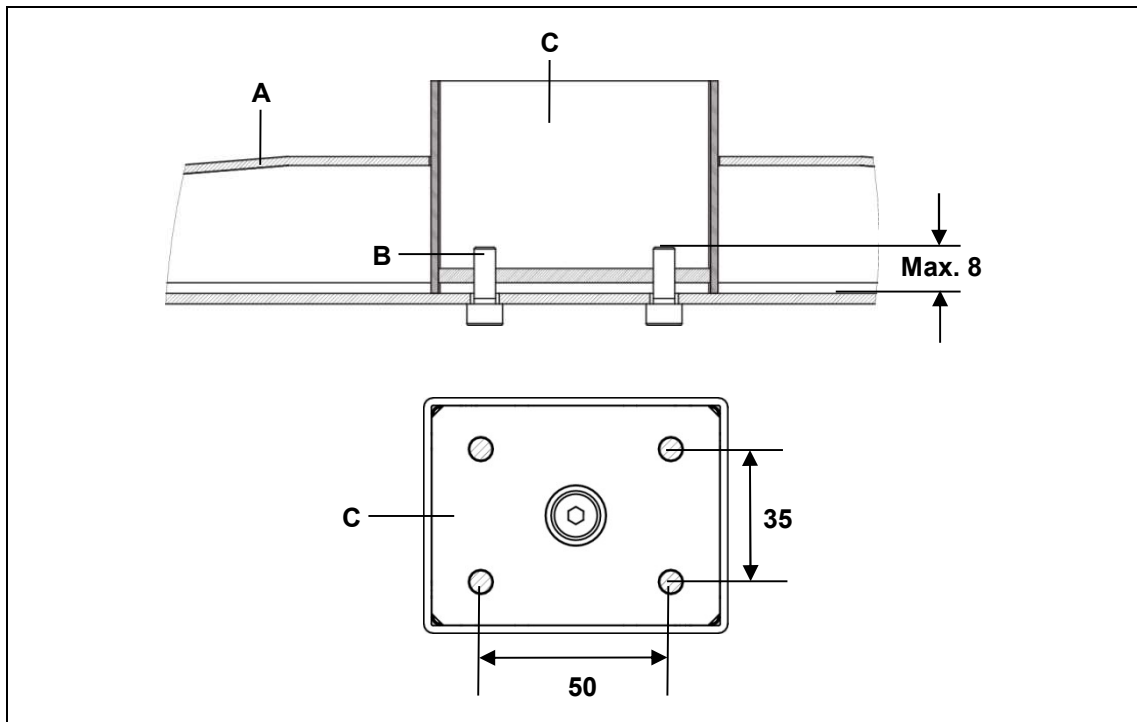
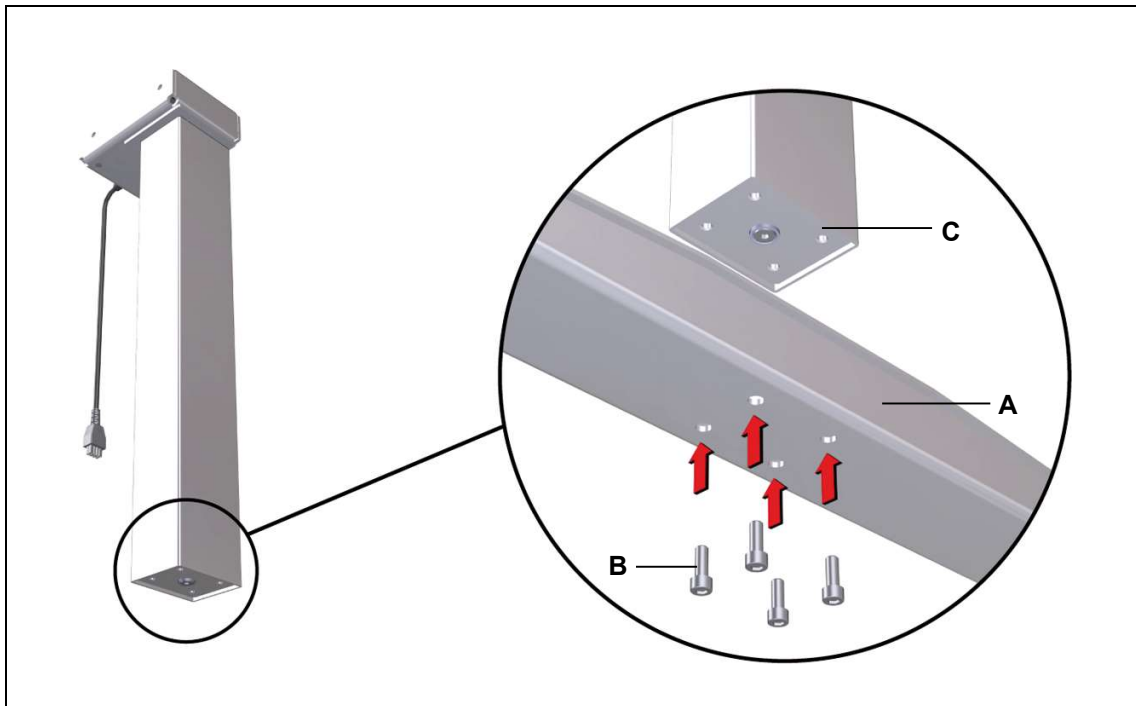

Figure 8 Mounting the table base (version A) (in mm)
Figure 9 Example: Mounting the table base (version A)
- Use M6 cylinder head screws (with strength grade 8.8), as shown in Figure 8. The tightening torque must not exceed 10 Nm.
- 1 Use four screws to attach the table base to the foot end of the lifting column, as shown in Figure 9 (the maximum tightening torque is 10 Nm). The mounting dimensions are shown in Figure 8.